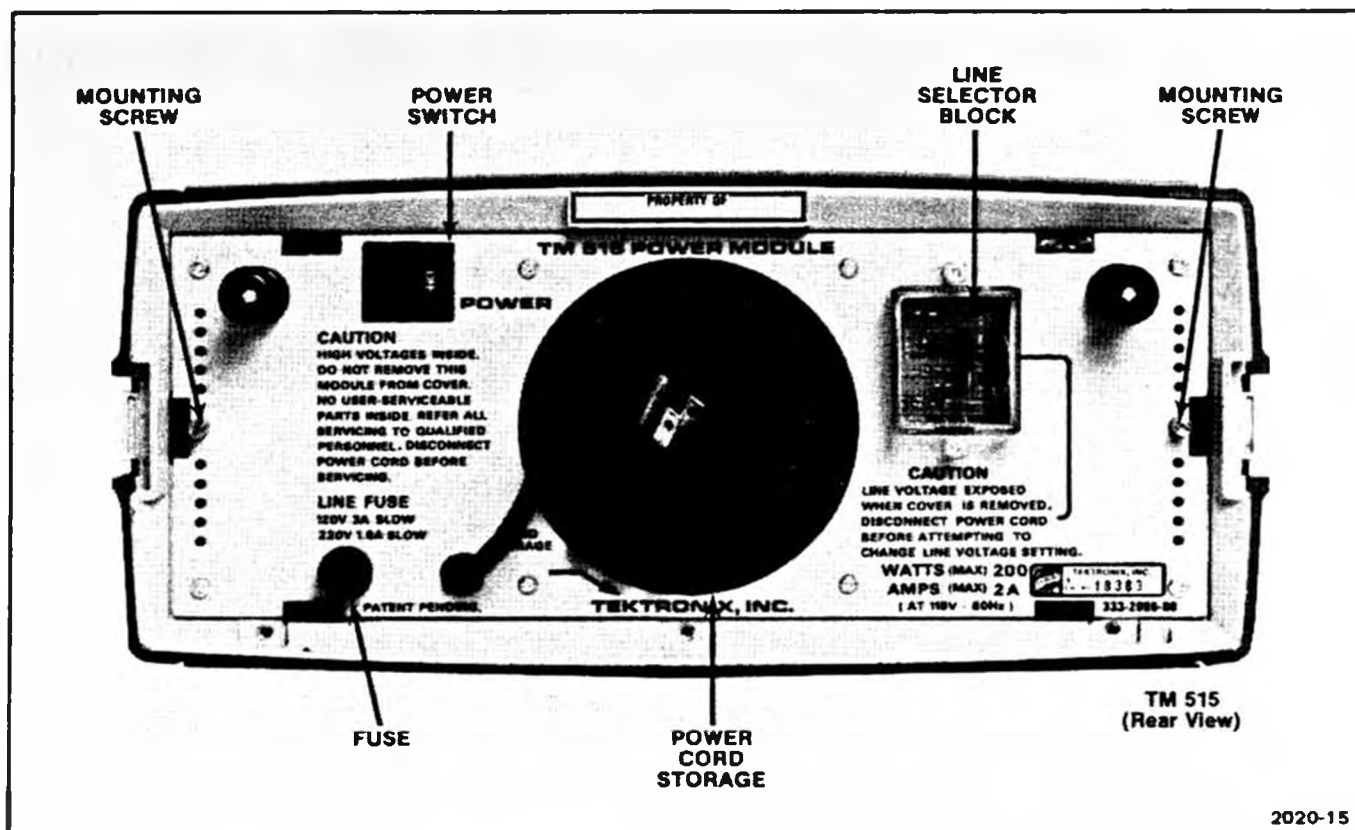

Fig. 2-4A. Rear View.
1. Check, through the clear plastic cover, that the appropriate Line Selector Block is in the In-Service position for the line voltage you expect to use this instrument on. Also check that the proper Fuse is in the Line Fuse Holder that screw mounts into the rear of this instrument (Fig. 2-4A).